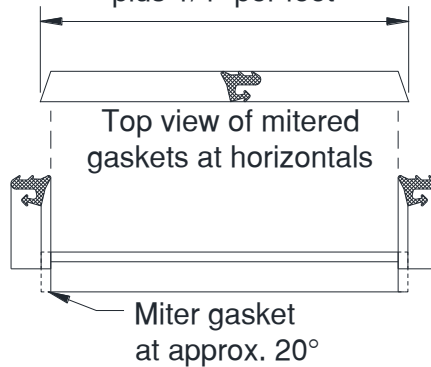

Figure 25: Gasket Cut Guide
10.3.2 Miter the horizontal gaskets per *Figure 25*.
- 11.1.2.3 Cut the **FG-1133** Gasket a minimum of 1/4" per foot longer than the D.L.O., to provide adequate compression, and miter the ends of the gaskets at a 20° angle, as shown in *Figure 25* (page 32).